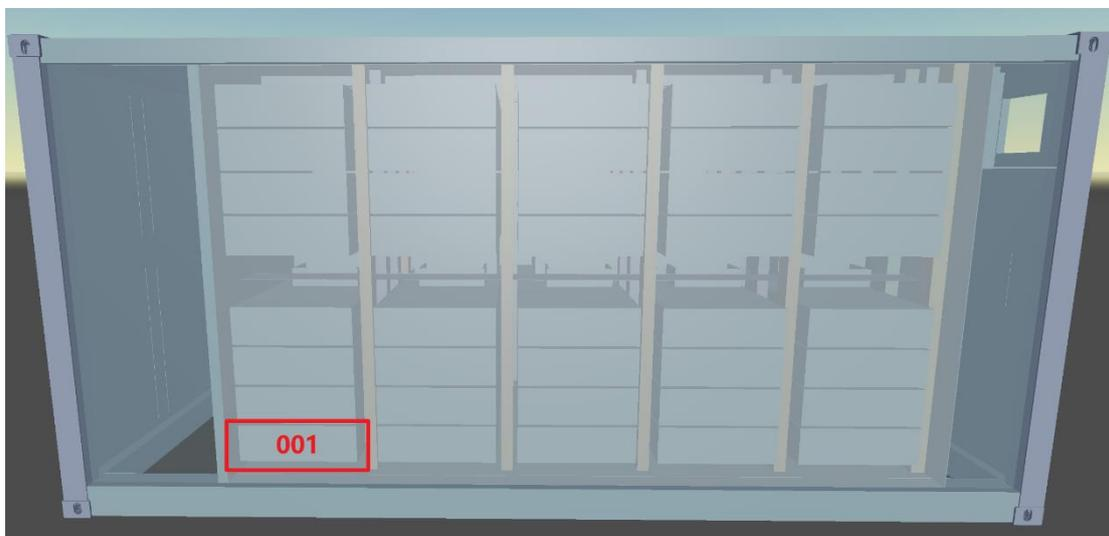

Figure 3.4. Location of gas leakage position (back view)
**Assumption:** One offgas release position on the rack is considered in this study. (See Figure 3.4)
**(3) Gas detector:**